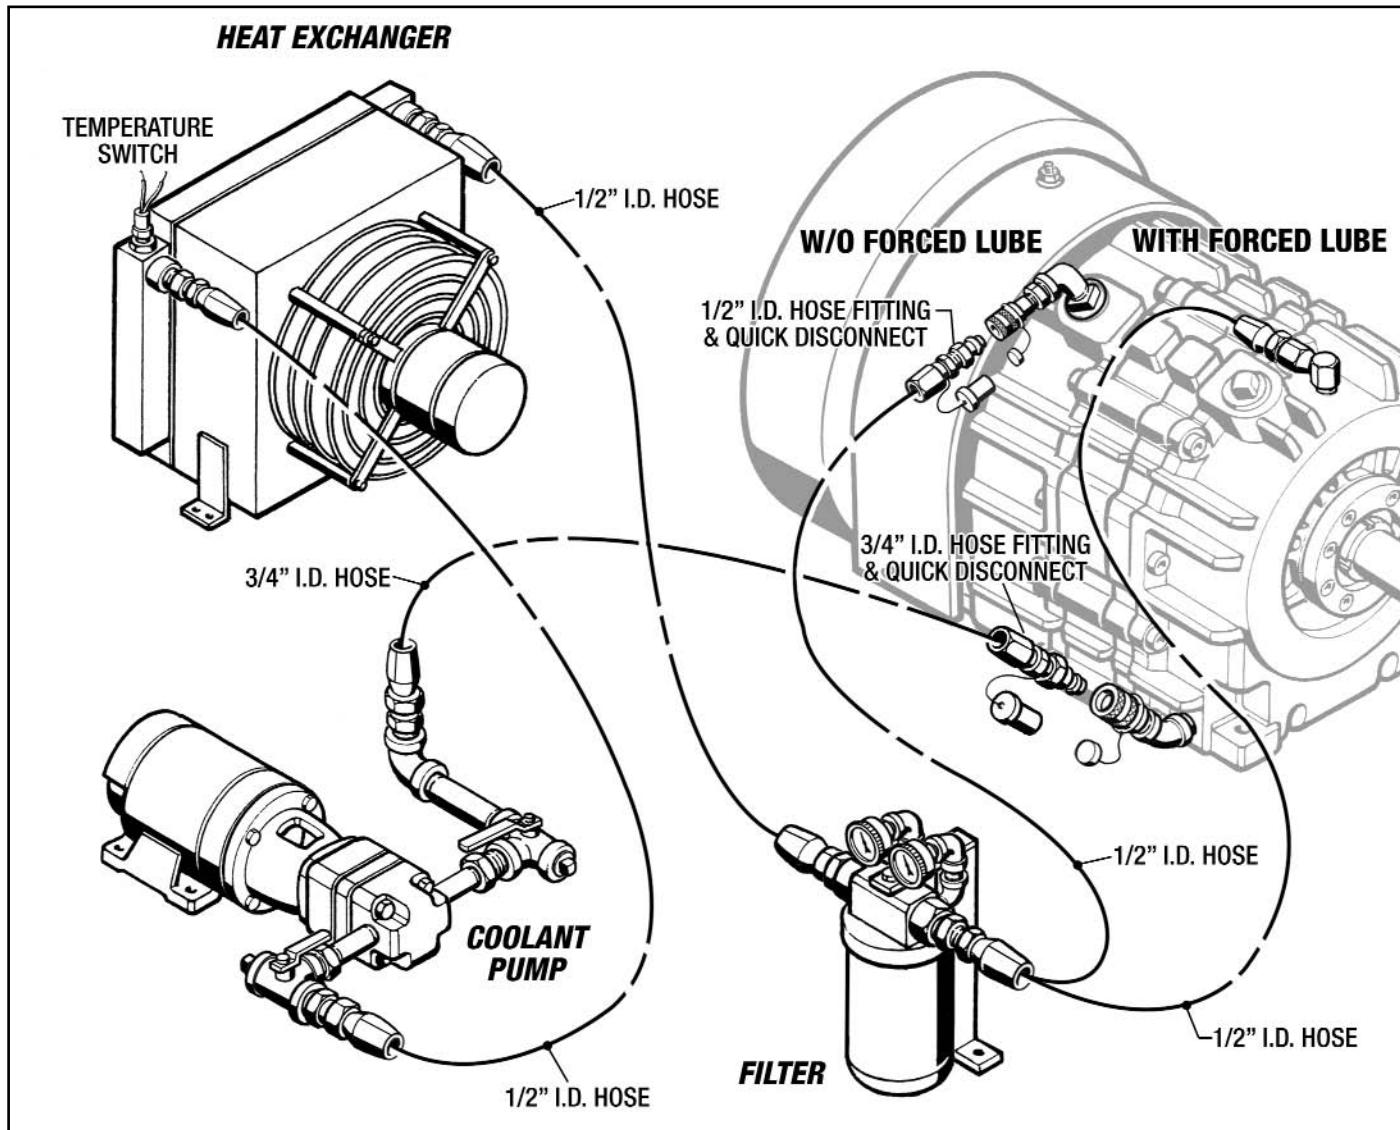

Figure 5 - Installing External Cooling System
(See Figure 5)
2. Remove any necessary pipe plugs. Cut hose lengths to suit and install as shown in *Figure 5*.
(See Figure 5 and 7)